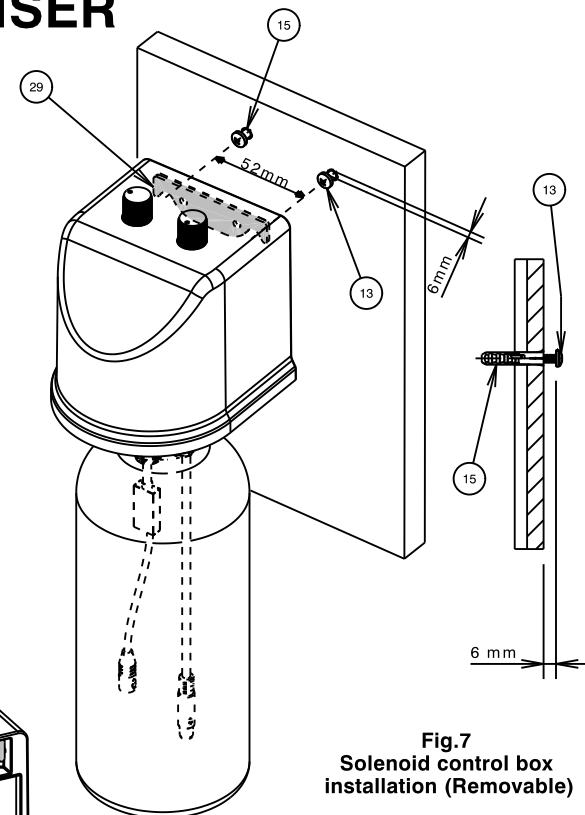

Fig. 7
- i) Remove the screws (28) using a phillips head screw driver.
- ii) Remove the wider fixing plate (14) and put it aside.
- iii) Take the narrower fixing plate (29) out of the bag, fit it at the back of the control box (12) by aligning the holes on the fixing plate (29) with the holes at the back of the control box (12). The cut-outs on the plate should be towards the bottom, as shown in Fig. 7.
- iv) Fit the screws (28) and tighten, DO NOT OVERTIGHTEN.
- i) Drill two Ø6mm holes, 40mm deep and 52mm apart horizontally as shown in Fig. 7.
- ii) Insert small end of wall plugs (15) into drilled holes and tap until flush with wall/tile face.
- iii) Insert screws (13) into wall plugs, screw them until the head is 6mm away from wall/tile face as shown in Fig. 7.
- iv) Mount the control box (12) onto the screws (13).
- i) Drill two holes at 52mm apart horizontally to suit the self tapping screws supplied as shown in Fig. 7.
- ii) Insert screws (13) into the holes, screw them until the head is 6mm away from wall/tile face as shown in Fig. 7.
- iii) Mount the control box (12) onto the screws (13).